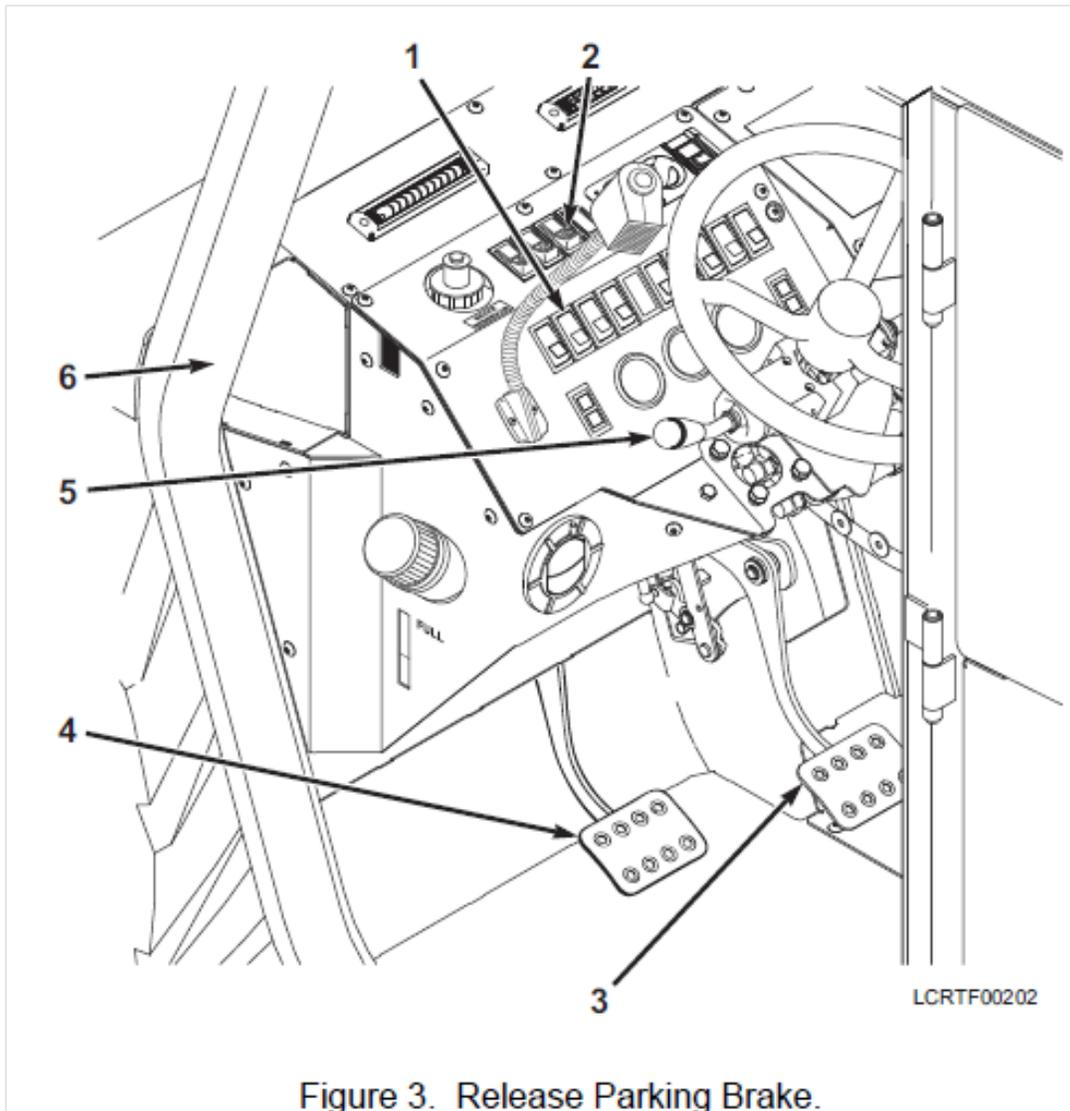

Figure 3. Release Parking Brake.
e. Press and hold brake pedal (see Figure 3, Item 4).
f. Press parking brake switch (see Figure 3, Item 1) up to release parking brake.
g. Press DRIVE/WORK switch (see Figure 3, Item 2) to drive mode (up) position.
h. Place gear selector lever (see Figure 3, Item 5) in up position to move vehicle (see Figure 3, Item 6) forward.
i. Release brake pedal (see Figure 3, Item 4) and slowly press accelerator pedal (see Figure 3, Item 3) to obtain desired speed.